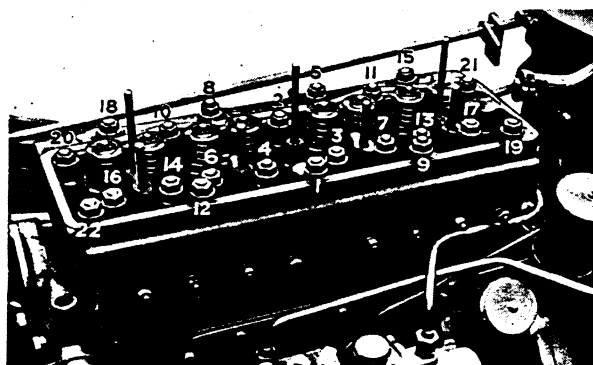

FIG. 110.
1. Remove rocker cover (28) and gasket. Remove nuts and spring washers from pedestals and lift off rocker and decompression shaft assembly. Lift out push rods and carefully place them in order of removal for replacement in their original positions.
3. Unscrew nuts evenly in reverse order to that recommended in Fig. 110 and
3. Remount cylinder head and tighten nuts on flat washers evenly, in order recommended in Fig. 110, torque loading 75—80 lb. ft. (10.4—11 kg.m.).